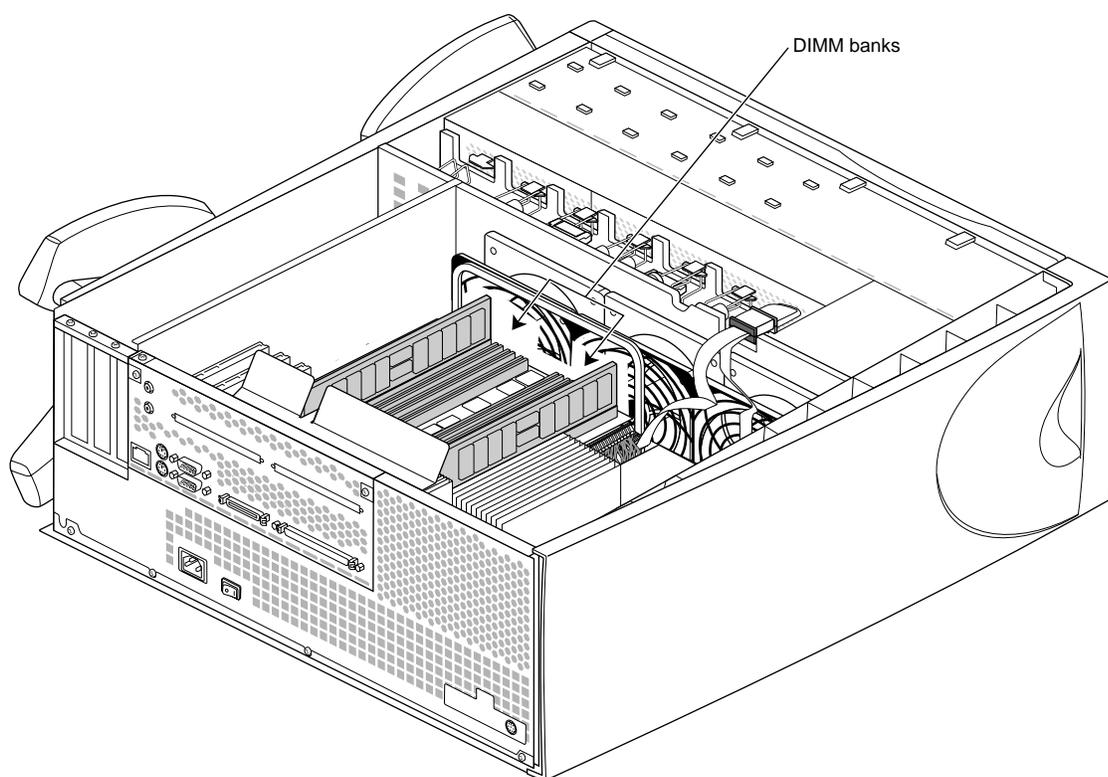

Figure 3-1 Locating DIMMs in the Origin200 Server
2. Locate the DIMM slots. See Figure 3-1.